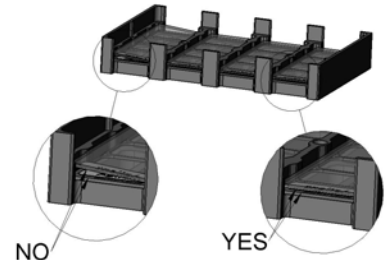

FIGURE 6
5. When all arrays have been placed, make sure all assemblies are laid flat against the base plate. See Figure 6 for examples of proper and improper placement.